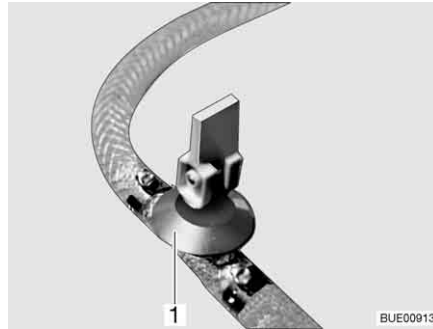
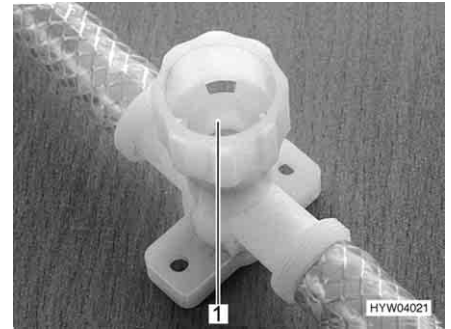

Fig. 244 Drain cock (with rocking lever)
Fig. 245 Drain cock (with twist cap)
- Close all drain cocks. To do this, position the drain cock's rocking lever (Fig. 244, 1) horizontally or turn the drain cock's cap (Fig. 245, 1) in a clockwise direction.